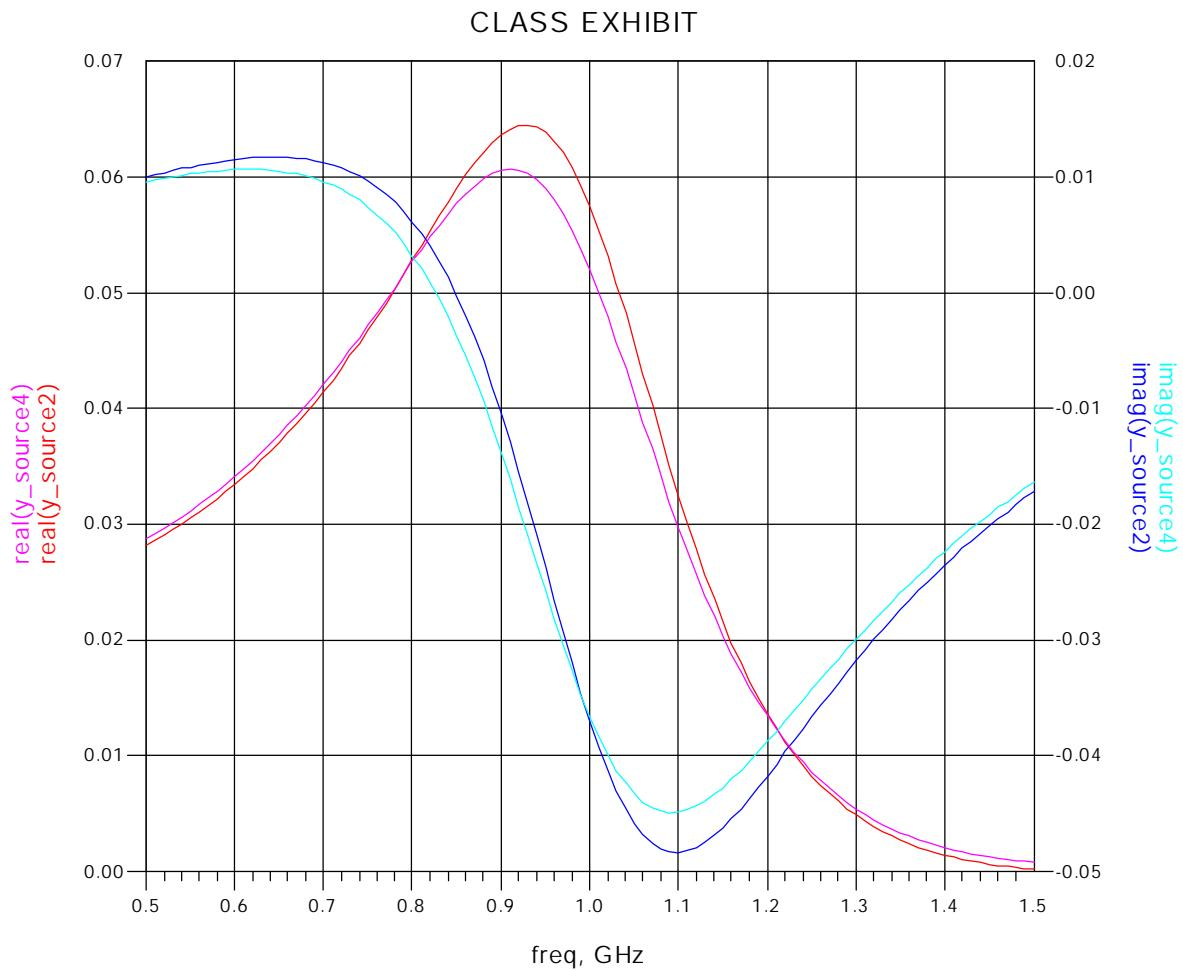
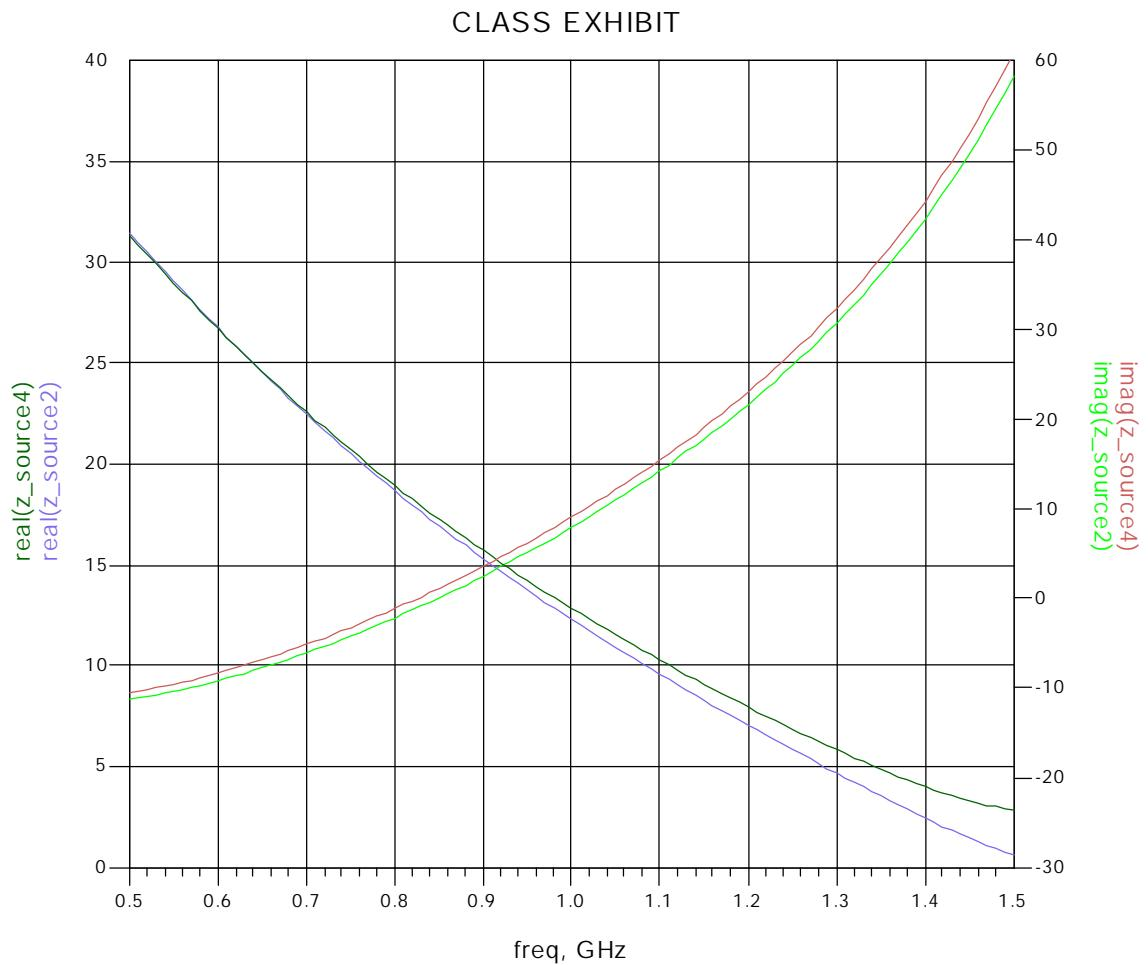

Figure 6. Frequency Response For Y_s .
Figure 7. Frequency Response For Z_s .
4. Simulate the source admittance (Y_S) and source impedance (Z_S) to obtain the results shown in Figure 6 and Figure 7.